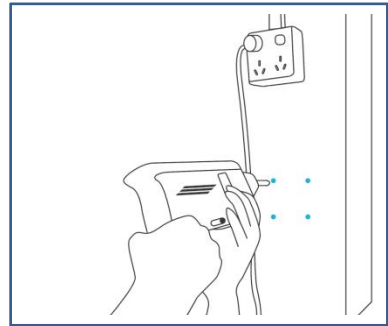

Fig.4.
- 4、 Drill four holes into the marked locations. Make sure your mounting area is structurally sound and free from obstruction.See the(Fig.4.)